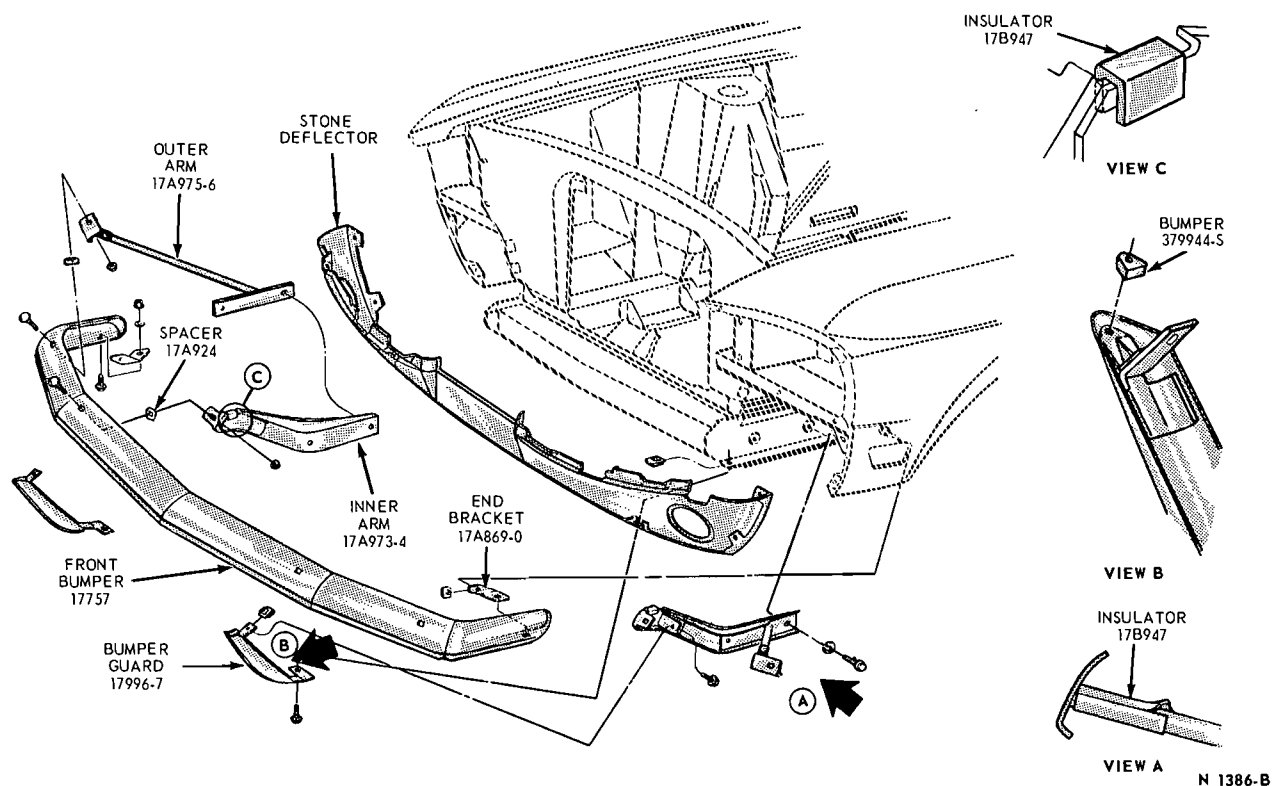

FIG. 12—Mustang Front Bumper Installation
4. Remove the bumper bar-to-inner arm and the bumper bar-to-outer arm retaining bolts from each side of the bumper (Fig. 12). Remove the bumper and end brackets as an assembly.
1. Remove the screw and washer retaining the bumper guard to the frame lower side rail (Fig. 12).
2. Remove the screw and washer retaining the bumper-guard to the inner arm (Fig. 12) and remove the guard assembly.
3. Transfer the nut and retainer assembly and the rubber spacer to the new bumper guard (Fig. 12, View B).